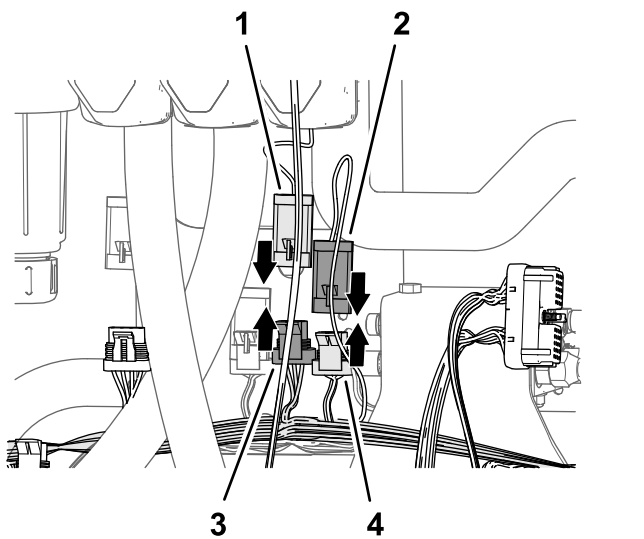

Figure 89
2. Connect the 3-pin connector of the 89 cm (35 inch) kit sprayer-harness branch labeled MASTER VALVE into the 3-socket connector of the machine wire harness labeled MASTER SPRAY VALVE (Figure 89).
3. Connect 3-pin connector of the actuator for the master-spray valve into the 3-socket connector of the 89 cm (35 inch) kit sprayer-harness branch labeled MASTER VALVE (Figure 89).